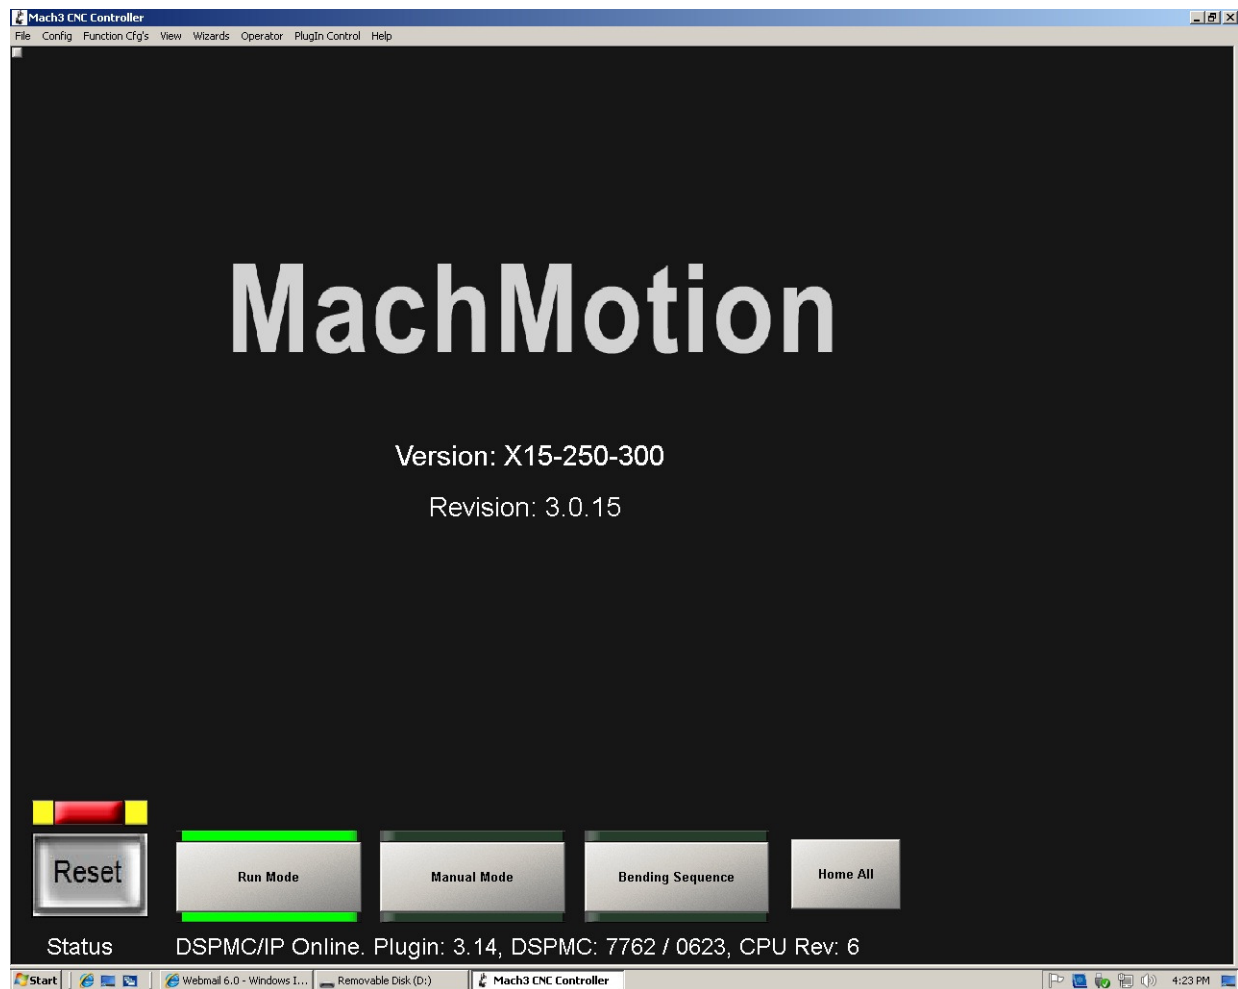

Figure 2 Mach Motion Tube Bender Control
Now click on the **Home All** button (Figure 2 on page 7). The tooling will be commanded to its open position, the bend arm will move and the carriage will travel toward the rear of the machine. When the tube bender has stopped moving, the homing routine has completed. Now you can proceed to the other modes. During normal operation you can use the three buttons at the bottom of the screen to switch modes. Whichever button is selected will be lit up by colored bars (Figure 5).
*Note: If for some reason you had to operate the tube bender before homing, if for example the machine was coming out of an emergency condition and the pipe was jammed up, you can navigate to Manual Mode by clicking the **Manual Mode** button at the bottom of the screen (Figure 2 above). Use caution as the indicated position of the bend arm and carriage will not be correct and the tooling to machine interference checks will not be operational.*
In this section you are going to begin by learning how to operate the Y, B, and C axes. Then you will also discover how to operate each of the other functions of the tube bender independently. Finally you learn what semi-auto mode is and how to use it. To begin, click on the **Manual Mode** button (Figure 2 on page 7). You will see the following screen: